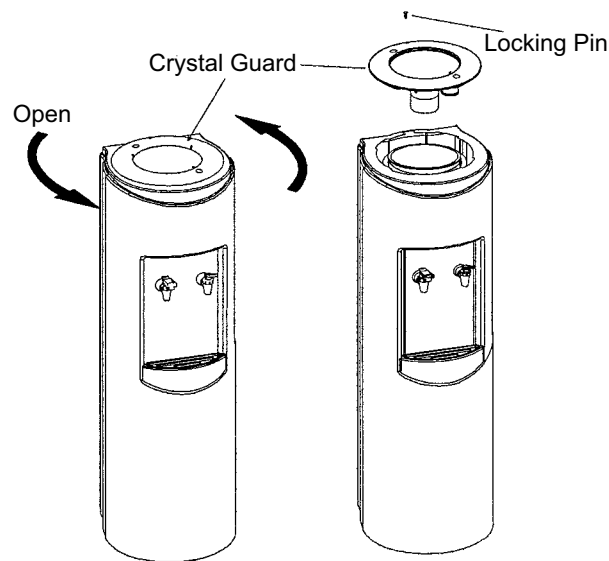

Figure 18.
2. Press on the Guard rim and turn counter clockwise to remove (Figure 18).